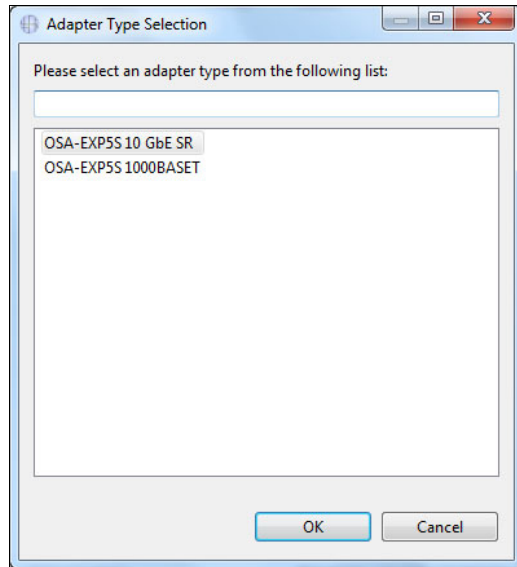

Figure 7-36 CMT - Adapter Type Selection
3. The tool displays a list of available and compatible card types for the CHPID as shown in Figure 7-36. Select an adapter type and click **OK**.